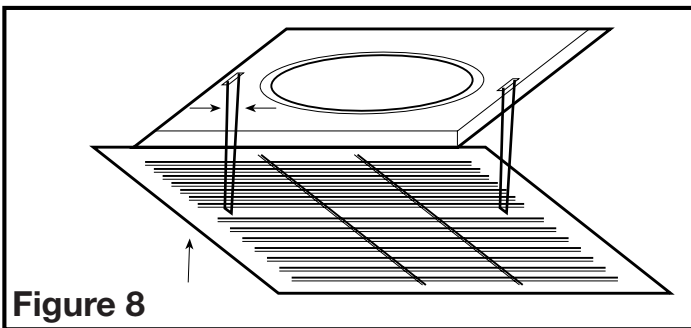

Figure 8
2. Install the grill by squeezing the two ends of the springs together and installing them up into the slots of the fan's venturi. Push the grill up into position (**Figure 8**).